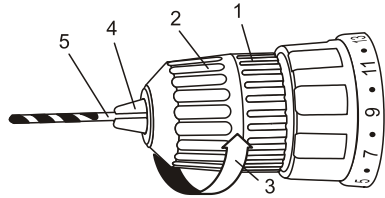

Fig. 8
1. To open the keyless drill/driver chuck, grasp and hold the chuck collar (1) with one hand (Fig. 8). Rotate the chuck body (2) with the other hand in a counter clockwise direction (3) until the chuck jaws (4) open wide enough to accept the bit (5).